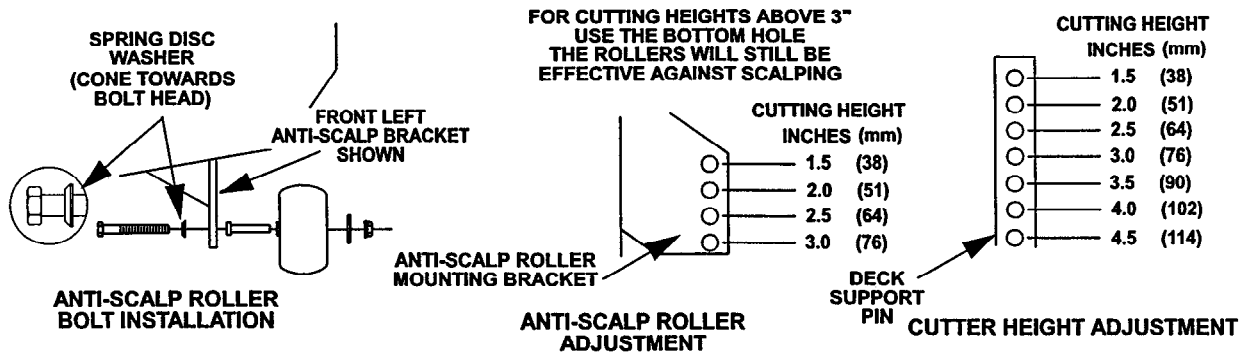

FIG 14
- a) Install hairpin clips in the holes shown on sketch below for the desired cutting height (See Figure 14).
- b) For maximum deck flotation, rollers should maintain 1/4 in. (6.4 mm) clearance to ground. **Do Not** adjust rollers to support the deck. Be sure roller bolts and nuts are installed with the spring disc washer between head of the bolt and mounting bracket (See Figure 14). **Torque to 40-45 ft-lbs., or loss of roller may result.**
- c) When operating in extremely rough conditions it may be necessary to position the anti-scalp rollers one or two holes higher than described in "b" to prevent damage to the rollers and/or bolt failure (See Figure 14).